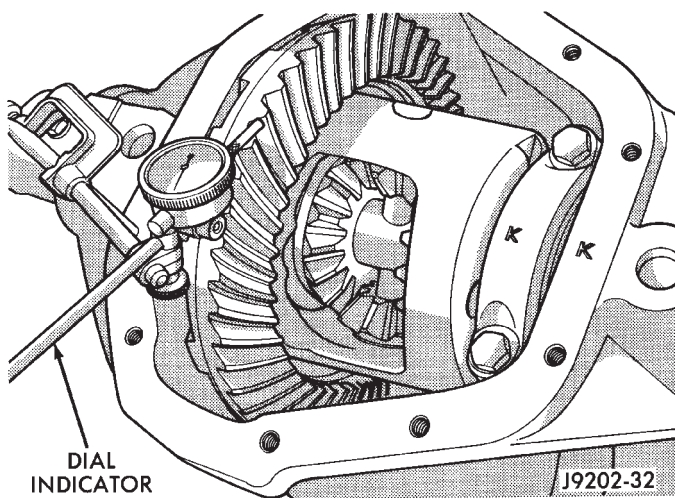
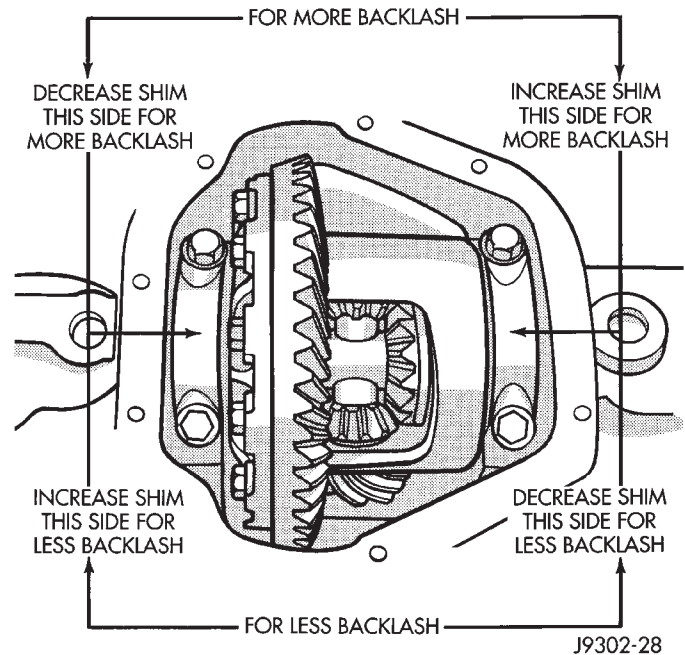

Fig. 69 Ring Gear Backlash Measurement
Fig. 70 Backlash Shim Adjustment
(35) Position the indicator plunger against a ring gear tooth (Fig. 69).
(36) Push and hold ring gear upward while not allowing the pinion gear to rotate.
(37) Zero dial indicator face to pointer.
(38) Push and hold ring gear downward while not allowing the pinion gear to rotate. Dial indicator reading should be between 0.12 mm (0.005 in.) and 0.20 mm (0.008 in.). If backlash is not within specifications transfer the necessary amount of shim thickness from one side of the axle housing to the other (Fig. 70).
(39) Verify differential case and ring gear runout by measuring ring to pinion gear backlash at several locations around the ring gear. Readings should not vary more than 0.05 mm (0.002 in.). If readings vary more than specified, the ring gear or the differential case is defective.